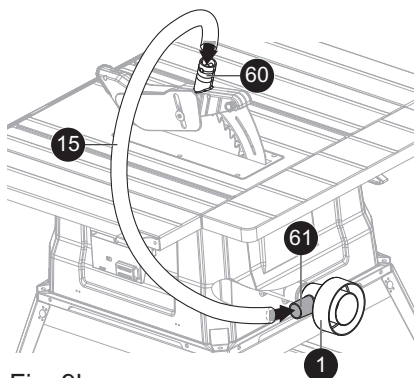

Fig. 9b
- > Attach the dust extraction hose [15] to the dust ports [60] on the blade guard and the hole B [61] of dust extraction adapter [1] as shown in the Fig. 9b.